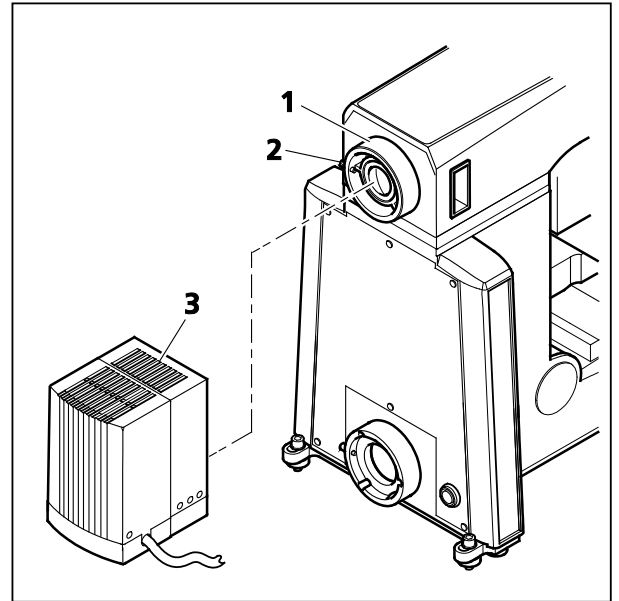

Figure 3-25 Attaching the HBO 100 illuminator
- Remove the cap from the reflected light socket (Figure 3-25/1).
- Insert the illuminator casing (Figure 3-25/3) with the dovetail ring into the reflected light socket (Figure 3-25/1) at the unit's rear side, and secure by a clamping screw (Figure 3-25/2) using a ball head-screwdriver (width A/F 3).